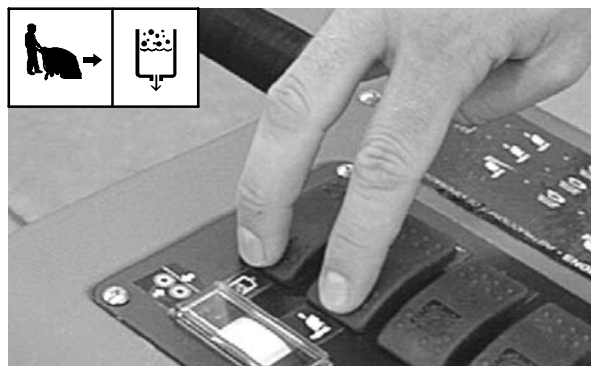

FIG. 18
- Press drive switch toward the set speed symbol and solution switch toward the solution mist symbol (Figure 18).